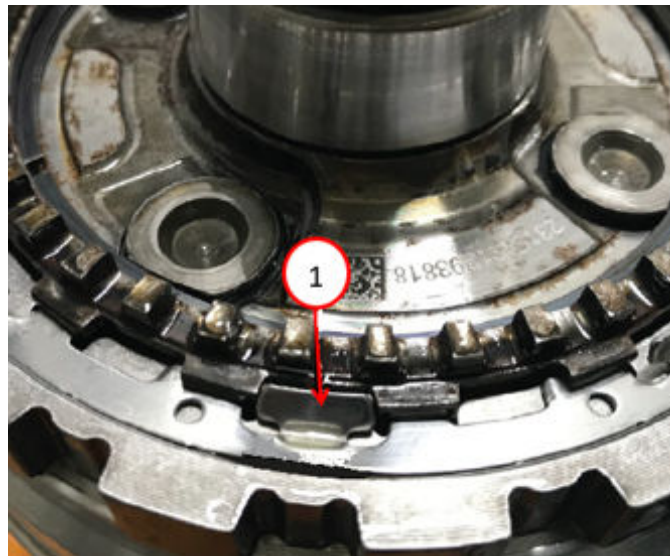

Fig. 26
38. Remove the P4 planetary carrier/output shaft lock ring from the P4 annulus drum by gently prying the locking tabs open and turning the lock ring to center the locating tabs in the output shaft tab openings. **Discard** the lock ring and install a **NEW** lock ring during assembly Fig. 26.